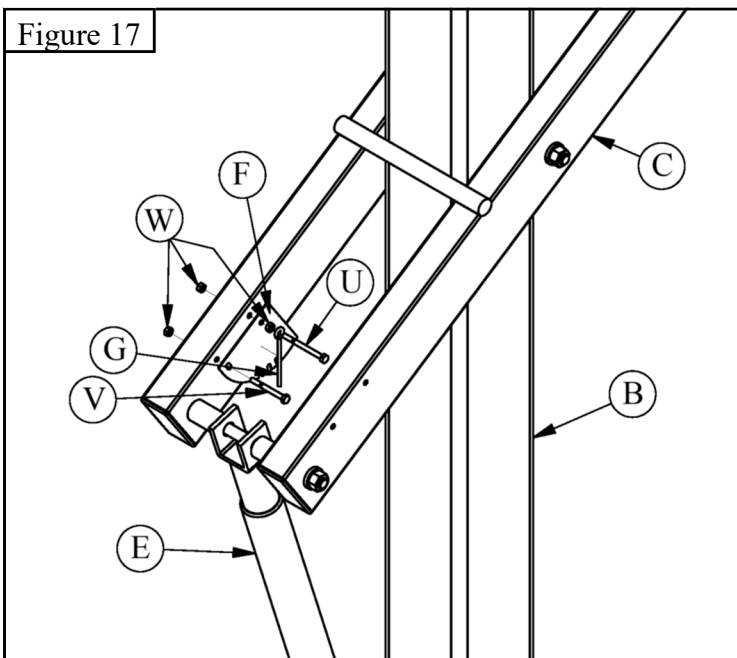

Figure 17
18. Attach *Height Gauge* (F) to the *Lower Arm* (C) with a $1/4'' \times 2 1/2''$ *Hex Bolt* (V) and $1/4''$ *Hex Nut* (W) in the back mounting hole. Slide the *Pointer* (G) onto a $1/4''-20 \times 3''$ *Hex Bolt* (U) then install one $1/4''$ *Hex Nut* (W) against the *Pointer* (G) with just enough slack to let the *Pointer* (G) rotate freely on the $1/4''-20 \times 3''$ *Hex Bolt* (U). Pass this assembly through the front mounting hole in the *Lower Arm* (C) and tighten with the remaining $1/4''$ *Hex Nut* (W). You must tighten the $1/4''$ *Hex Nuts* (W) against each other to lock this assembly in place, if you tighten the $1/4''-20 \times 3''$ *Hex Bolt* (U) you will also tighten the assembly against the *Pointer* (G). The *Pointer* (G) must rotate freely on the $1/4''-20 \times 3''$ *Hex Bolt* (U) once installed to accurately indicate your systems height. Leave the *Height Gauge* (F) hardware loose. See Figure 17.